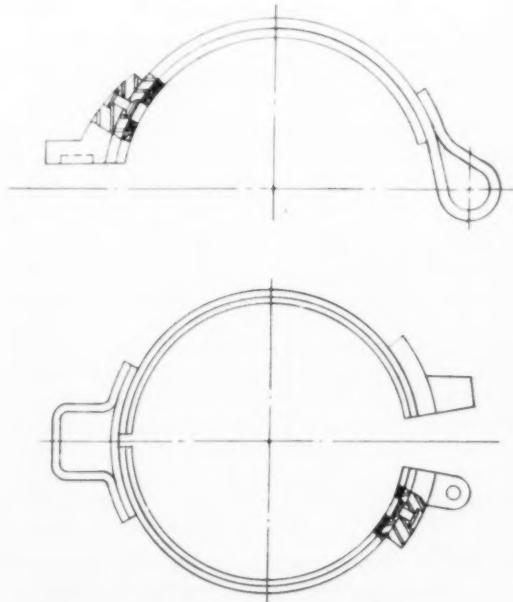

FIG. 12 INTEGRAL BANDS
*Integral Bands.* In structural design, use is made of the steel backing of the bimetallic friction material, Fig. 12. The back-